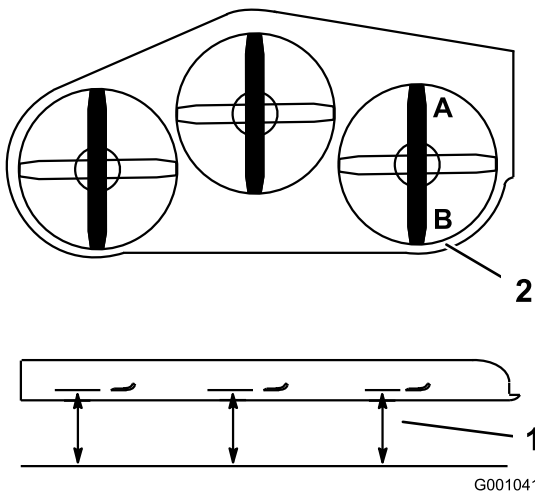
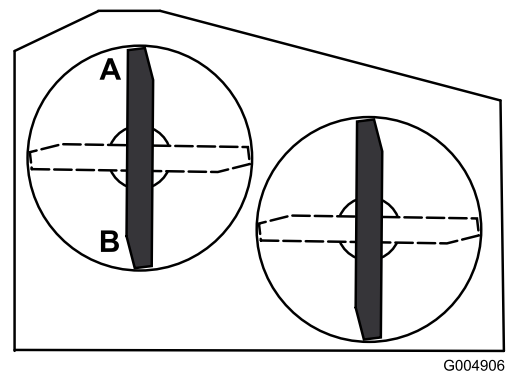

Figure 70
Figure 71
2. Position one blade front-to-rear. Measure at **A** and **B** locations from a level surface to the cutting edge of the blade tips (Figure 70 or Figure 71). For 36 inch mower decks use Figure 71.
4. Position the blades front-to-rear. Measure at C and D locations (Figure 70) from a level surface to the cutting edge of the blades.